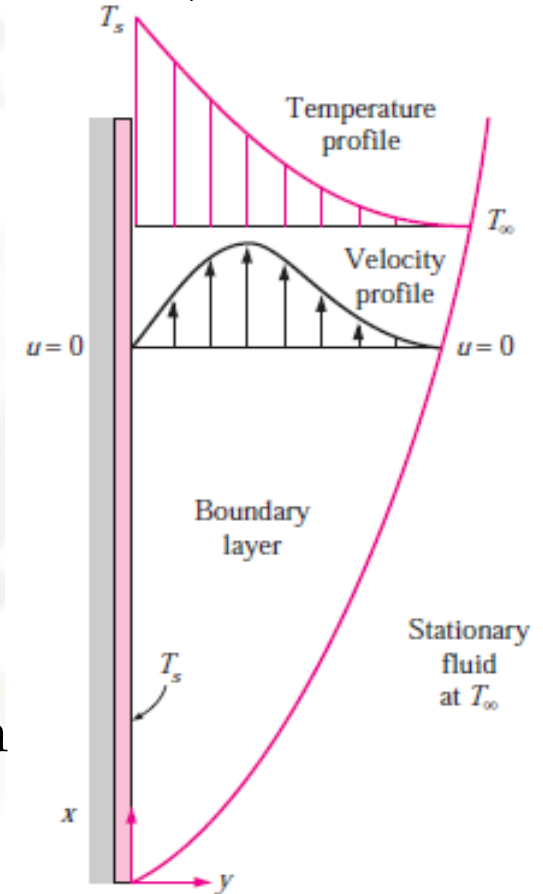

Fig 3: Typical velocity and temp profiles for natural convection flow over a hot vertical plate temp T_s inserted in a fluid of temp T_∞
- The temperature and velocity profiles are as shown in Fig 3.